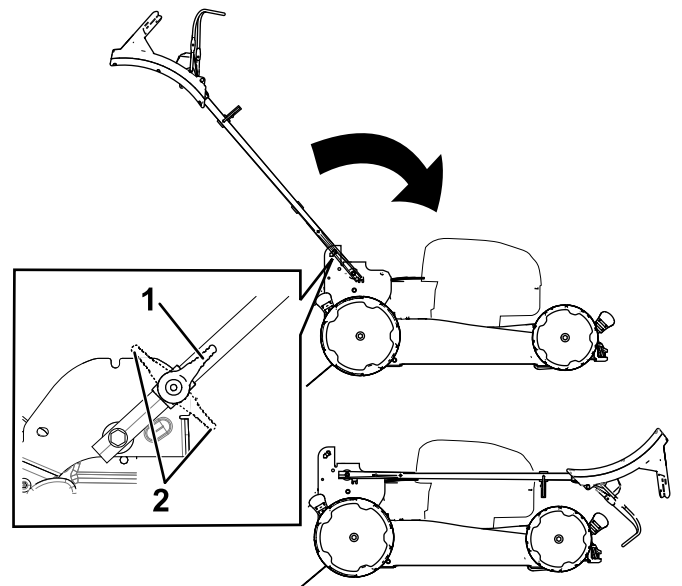

Figure 18
3. Disengage the handle locks (Figure 18).
4. Fold the handle fully forward (Figure 18).